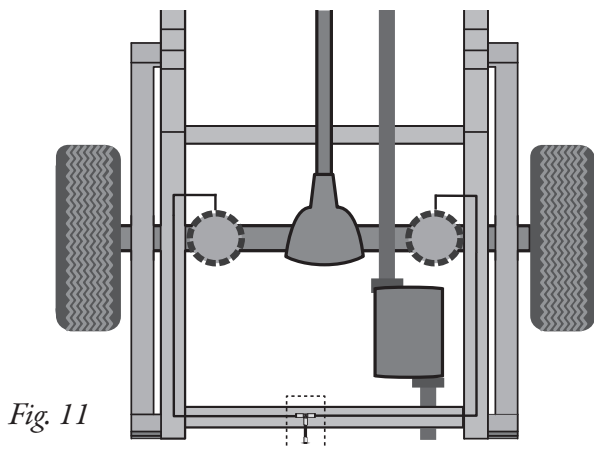

Fig. 10
9. You can drill a hole anywhere to mount the inflation valve. For our installation (shown) we decided to remove a rivet that held the inner liner to the bumper cover and installed the inflation valve in this location (Fig. 10).